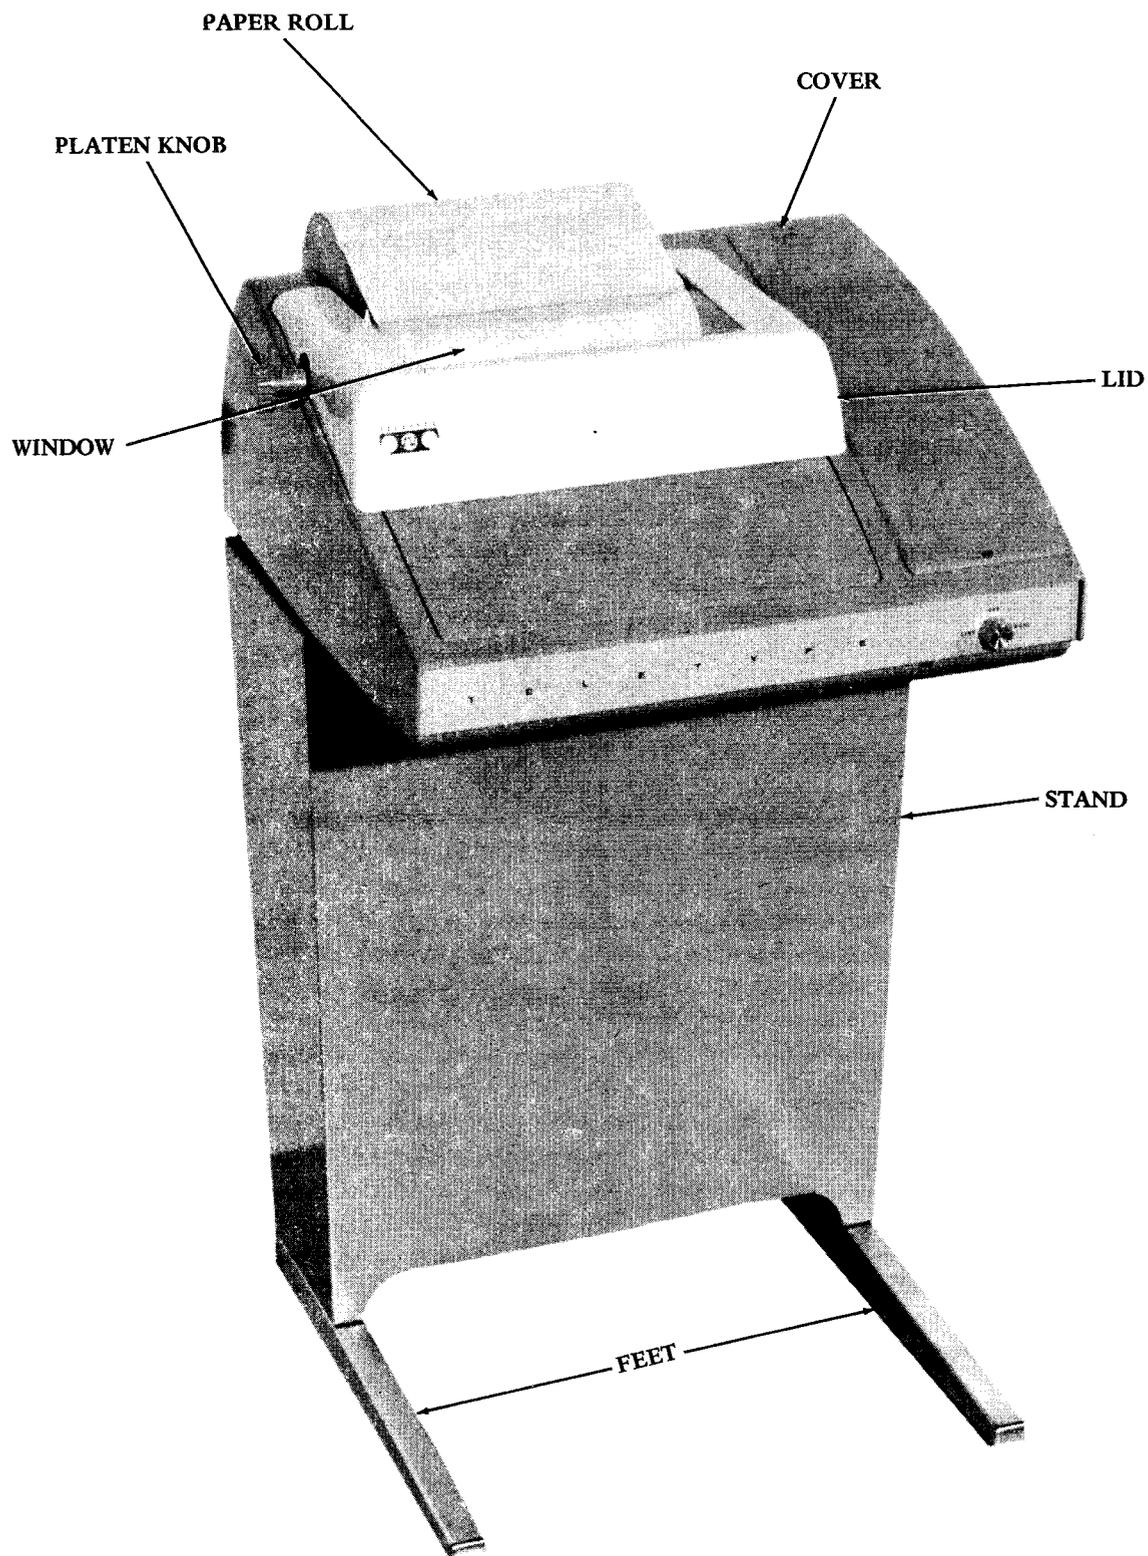

Figure 1 - Model 33 Receive-Only (RO) Teletypewriter Set
- (a) Receive-Only (RO) Teletypewriter Set
RECEIVE-ONLY (RO) TELETYPEWRITER SET (Figure 1)